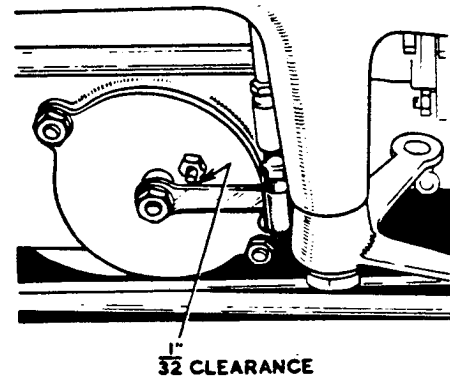

FIG.1.
- (v) Refit the new fast idle cam and link to the fulcrum pin and fit a 2.B.A. retaining nut. No washer is required. Adjust the thermostat link rod to give $\frac{1}{32}$ " clearance between the thermostat lever and its stop pin as shown in Fig.1. Adjust the fast idle cam link rod so that with the choke valve closed the fast idle screw rests at a point approximately $\frac{1}{3}$ the way along the first step of the cam.